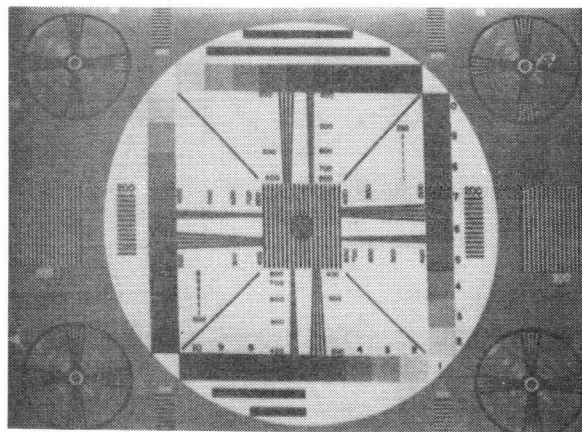

Fig. 13 Extension of the Test Pattern Image to the Edges of the Scanned Area on TV Monitor.
13. Reduce the horizontal and vertical scanning so that the edges of the test pattern image just extend to the edges of the scanned area, as seen on the TV monitor as shown in Fig. 13.